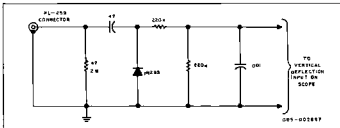

Figure 12 Diode Detector
- Connect the diode detector unit to the RECEIVER outlet to provide a byproduct for the transverter mixer output. See Figure 12.